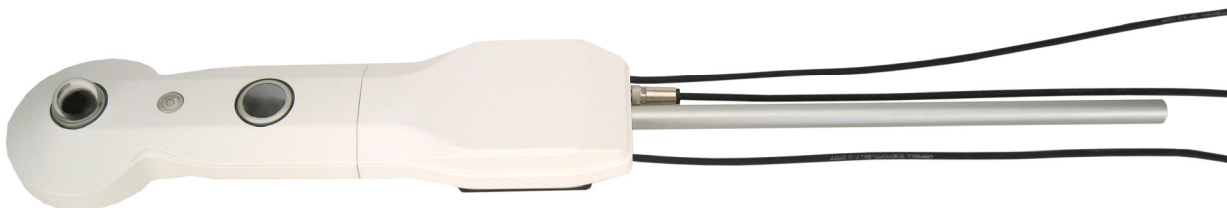

FIGURE B-7. Connecting the CNF4 power control cable and the mounting rod
5. Connect the heater/ventilator power control cable and the mounting rod to the CNF4, as shown in FIGURE B-7.